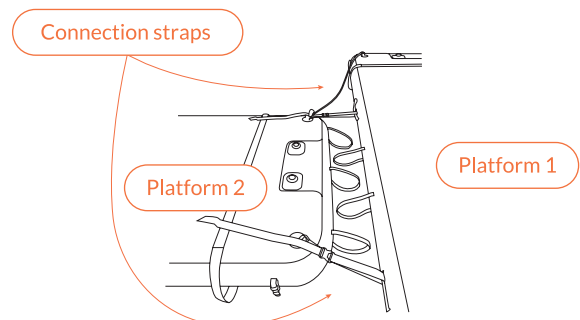

Fig 90 – Loosely feed the connection straps through the D-rings of Platform 2
3. From a kneeling position loosely feed the two connection straps provided through the D-rings of Platform 2, either side of the desired Air Toggle connection (Fig 90).